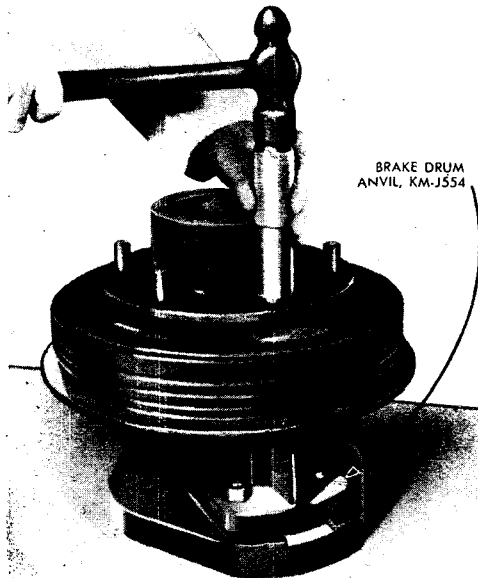

Figure 42—Installing Brake Drum
(4) INSTALL BRAKE DRUM (fig. 42).
Place drum on hub. Shellac both sides of a new gasket and place on drum with small hole in line with the oil relief hole in the drum. Place oil deflector on gasket with channel in deflector in line with small hole in gasket. Insert six new hub bolts; then place assembly on anvil with the threaded portion of the bolt passing into the hole in one of the supports. Drive each bolt into place solidly. Place the hub assembly on anvil (fig. 42) and peen the shoulder of the bolt into the chamfer of the flange. Turn peening tool after each hammer blow to prevent damage to the tool. **NOTE:** The peening operation is important from a safety standpoint.